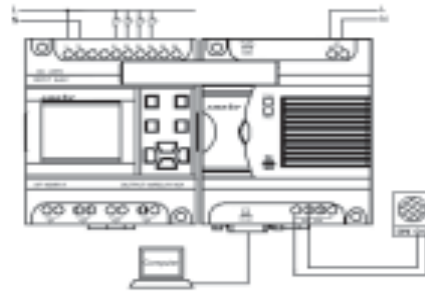

Fig 6.4
1. As shown in Fig 6.4, connect the AF-MUL and FAB, connect switch k1 between L and I1, connect k2 between L and I2, connect k3 between L and I3 and connect k4 between L and I4.